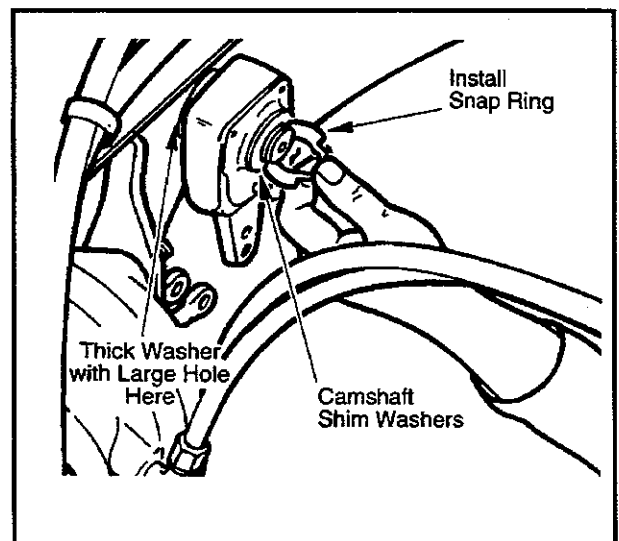

Figure 22—Install Slack Adjuster
9. Depress locking sleeve and turn adjustment nut with a wrench at least one turn in each direction. (See Figure 22—Install Slack Adjuster.)